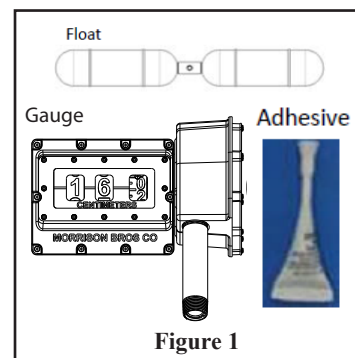

Figure 1
1. Verify contents of box. You should have received the gauge, float, and a small tube of adhesive (See Figure 1). Inspect the items for shipping damage. **DO NOT** use if damage is found.